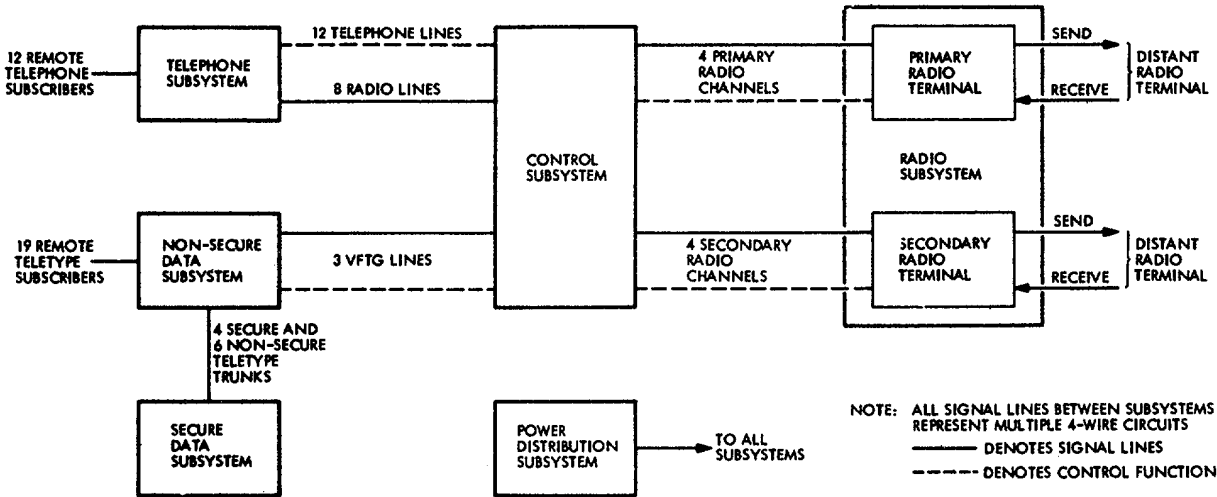

Figure 5-1. AN/TSC8-B System, functional block diagram.
a. Communications Central AN/TSC-38B provides terminal equipment and radio transmission facilities for telephone and teletypewriter wire line subscribers. Facilities are also provided for two full-duplex secure teletypewriter terminals. Functionally, the AN/TSC-38B consists of six subsystems (fig. 5-1)- (1) Radio subsystem (sec. II) (2) Telephone subsystem (sec. III) (3) Nonsecure data subsystem (sec. IV) (4) Secure data subsystem (sec. V) (5) Control subsystem (sec. VI) (6) Power distribution subsystem (sec. VII) b. Each subsystem will be discussed briefly in this section. The major subsystems will be discussed in more detail in sections II through VII. c. In addition to the components contained in each of the six subsystems, the AN/TSC-38B equipment shelter contains an air conditioner that provides temperature (heating and cooling) and humidity control of the equipment shelter environment.